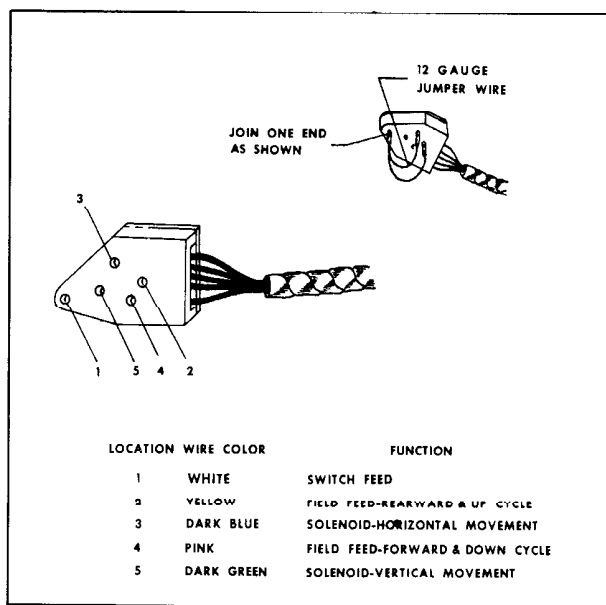

Fig. 17-159 4-Way Seat Switch Control Block
1. Connect one light tester lead to feed terminal of switch block and ground other light tester lead to body metal. (Fig. 17-159)
the jumper wire and the switch locations to be connected, to obtain a specific movement of the seat, are shown in Fig. 17-159. If a jumper wire is used, number the locations on the switch block as indicated in the illustration.
NOTE: To make jumper wire, refer to Inset in Fig. 17-159.